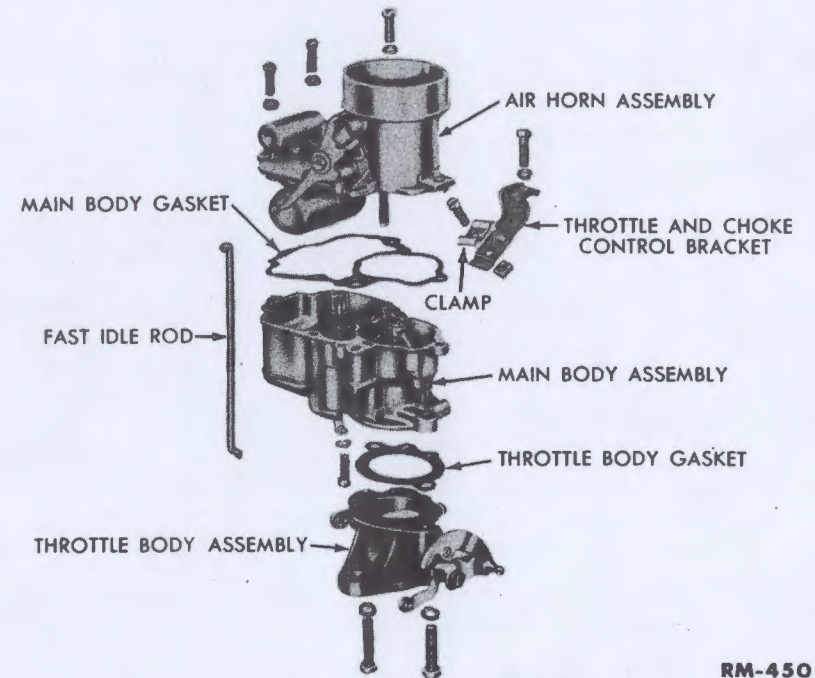

Figure 6—Carburetor, Disassembled (Single Downdraft)
(1) **Remove Air Horn.** Remove the screw that secures the choke wire bracket to the air horn. Remove the cotter pin from the idler lever shaft, and remove the idler lever from the shaft. Separate the idler lever from the fast idle rod. Turn the fast idle rod (fig. 6) until the spline on the rod is in line with the slot in the choke shaft lever, then remove the rod. Remove the four remaining screws that hold the air horn to the main body, and separate the two assemblies.
(2) **Remove Throttle Body.** Hold the throttle lever in open position, and remove the pump link retainer from the pump link (fig. 6). Remove the pump link. Remove the two screws that hold the throttle body and shaft to the main body. Separate the throttle body from the main body.
(4) **Assemble Air Horn to Main Body.** Install the pump discharge valve in the main body (fig. 10). Place a new main body gasket and the air horn on the main body. Install the five screws, lock washers, and choke tube bracket (fig. 6). Connect the fast idle rod to the choke shaft lever so the spline on the rod is opposite the slot when the rod is in normal position. Connect the idle lever (fig. 7) to the fast idle rod. Install the idle lever on the throttle body. Install a cotter pin to secure it in place.